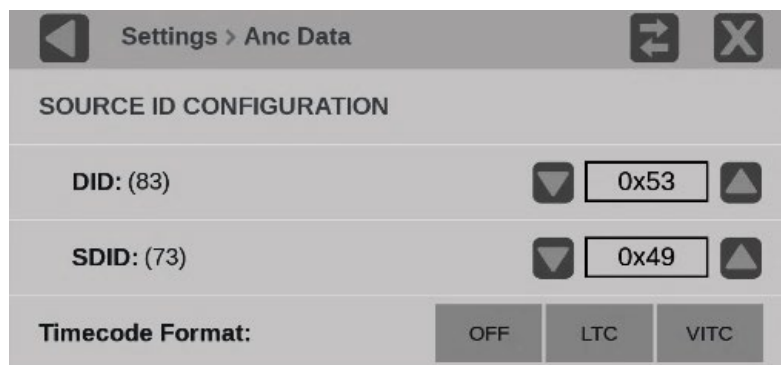

Figure 62: Reference configuration Anc Data
2. Select **Anc Data** to open the Anc Data submenu. (See Figure 62.)